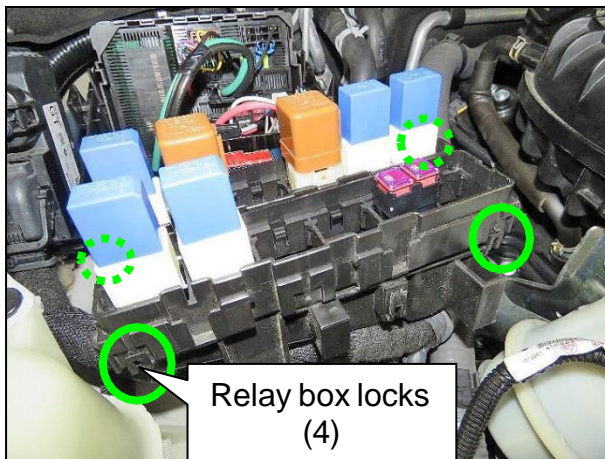
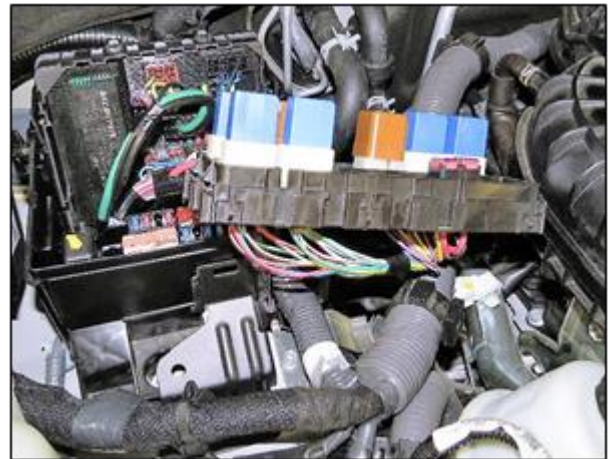

Figure 11
Figure 12
9. Using a flat-blade screwdriver or suitable tool, disengage the four (4) locks to open the relay box (Figure 11), and then remove the relay box lower assembly (Figure 12).